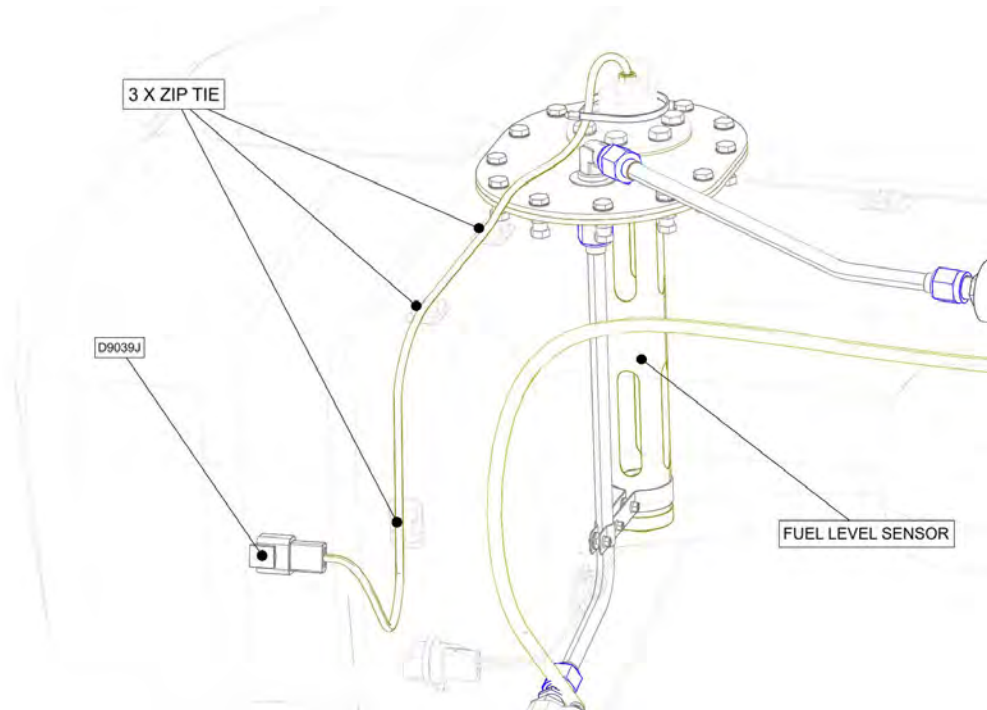

FIGURE 14-96
- c. Secure the Fuel Level Sensor Harness and the T9028 ground wire to the Fuel Tank cable tie mount using three 30lb CABLE-TIES. (See Figure 14-96.)